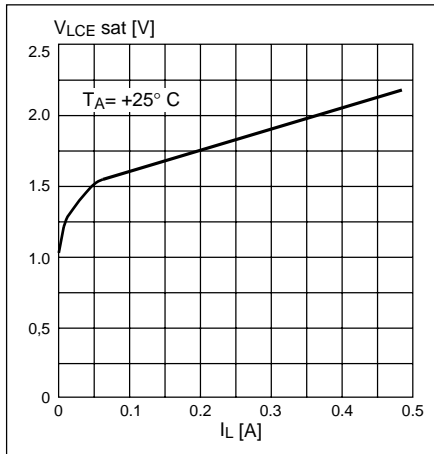

Figure 17. Typical second output saturation voltage vs. output current
4. Figures 17, 18 and 20 show typical saturation voltages vs. output current levels for different output transistors.